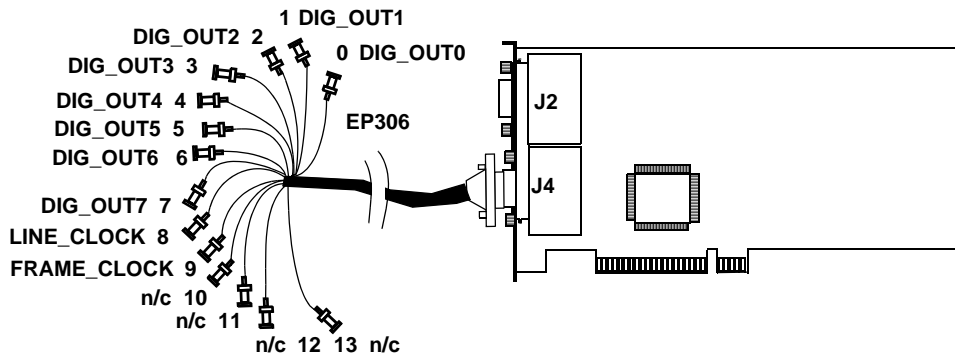

Figure 5: Connecting the EP306 Cable Assembly to Connector J4
1. After making sure power to the computer is off, push the 15-pin connector of the second EP306 cable assembly into the J4 socket at the rear of the DT3152 board, as shown in Figure 5, and tighten the screws on the connector.